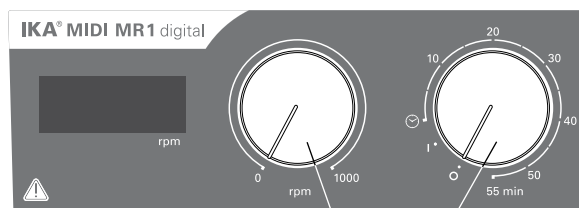

Fig. 3
- ☞ To switch the device on, turn the **“On/Off”** and **“Timer”** rotary knob (**B**, see **Fig. 3**) clockwise to the **“1”** position.
- ☞ Set the motor speed by turning the **“Speed”** rotary knob (**C**, see **Fig. 3**). The motor speed can be set to between 0 to 1000 rpm for **MIDI MR 1 digital** and 0 to 600 for **MAXI MR1 digital**.